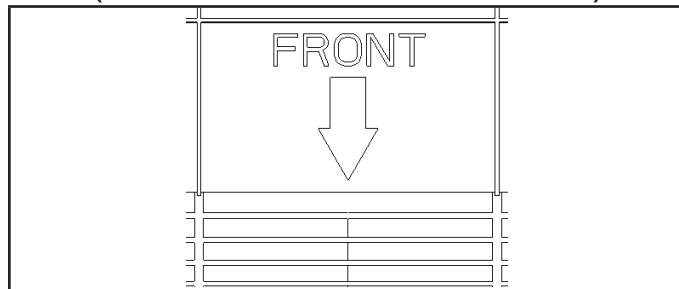

**FIGURE 4. Front Indicator
- 5 - Once the snow guard bottom is secured, position the snow guard top on the guard bottom and use (4) 8-18 x 1/2 screws to fasten the top to the bottom. Ensure that the assembly is aligned to the front of the unit (figure 4). Use angle ratchet to tighten screws to 17-18in-lbs torque.
- 6 - Once the snow guard bottom is secured, position the snow guard top on the guard bottom and use (4) 8-18 x 1/2 screws to fasten the top to the bottom. Ensure that the assembly is aligned to the front of the unit (figure 4). Use angle ratchet to tighten screws to 17-18in-lbs torque.